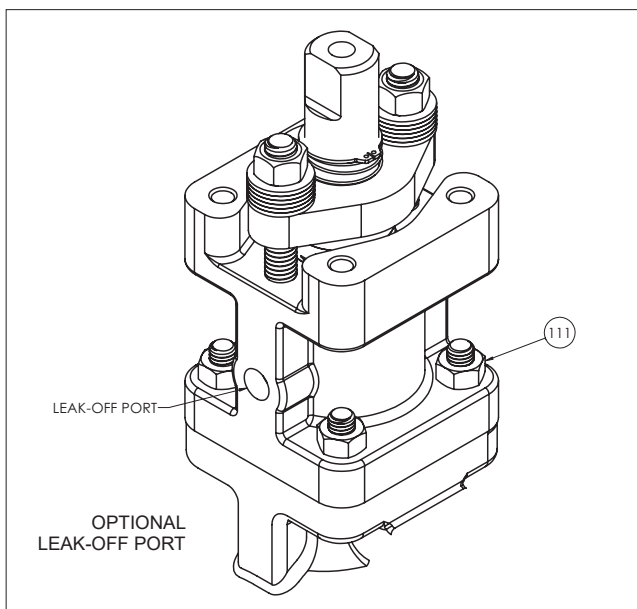

Figure 5.
6. Remove the retaining ring (72) and grounding spring (70) from stem (4).
7. Remove hex nuts (30), disc springs (31) and compression plate (20). Pay careful attention to the orientation of the disc springs (31) and make sure they are in the same orientation during assembly.
8. Remove hex nuts (111) and lift the *Emission-Pak* housing (101) straight up until the ball end of the stem clears the valve body (1) (see **Figure 5**).